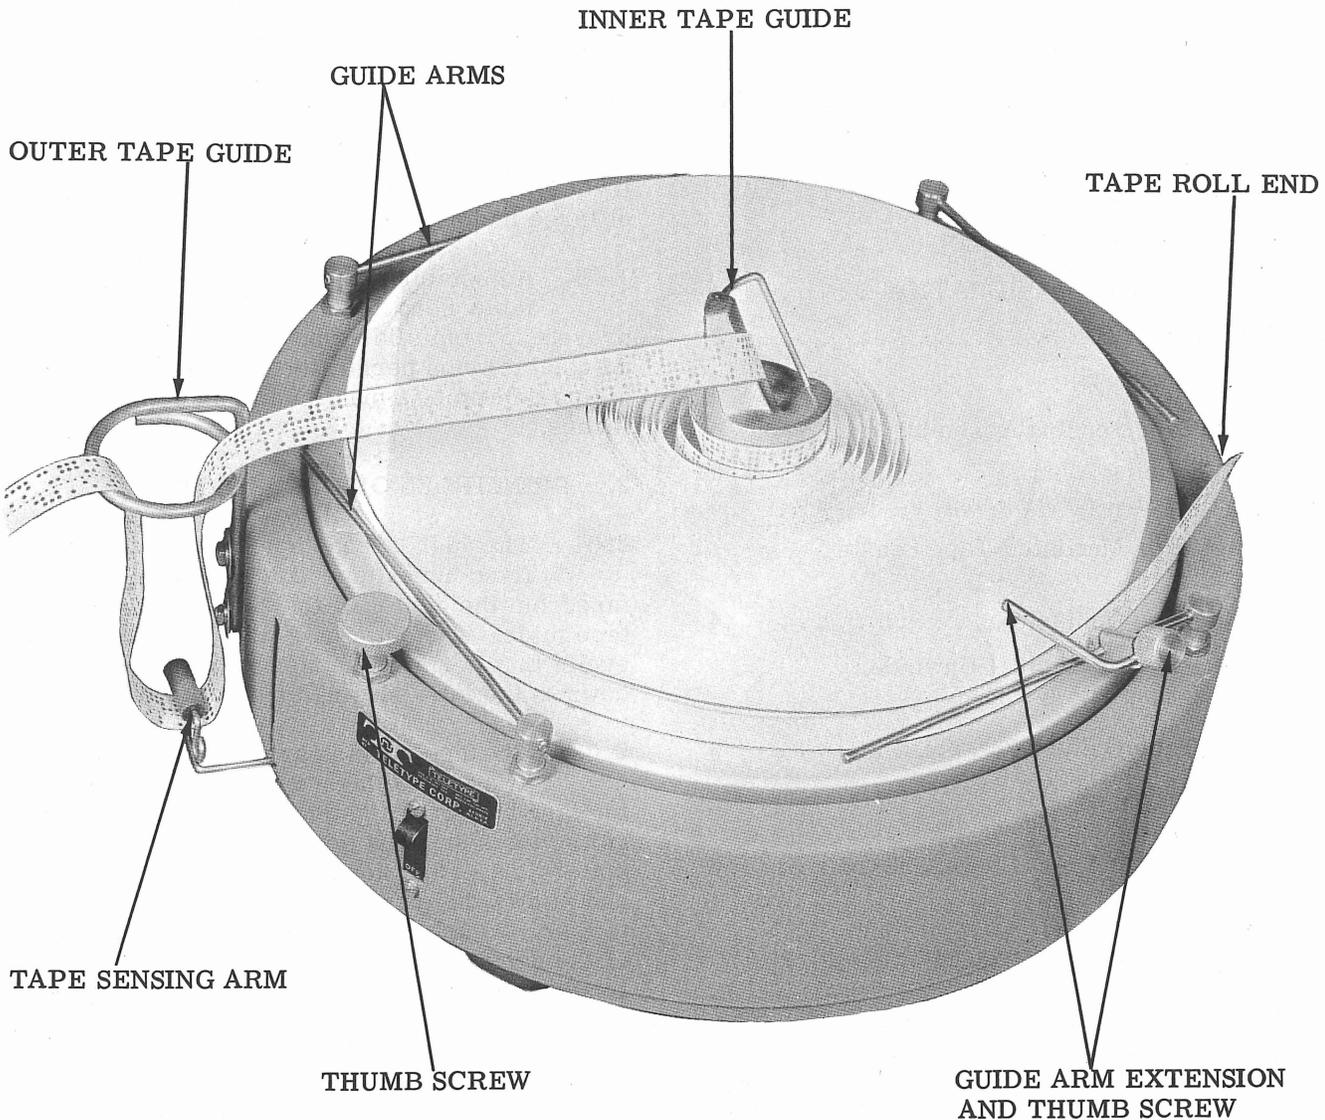

Figure 1 - High Speed Tape Feeder
1.02 The high speed tape feeder consists of a base, turntable, adjustable tape guide arms, inner tape guide, outer tape guide, and tape sensing arm (see Figure 1). It is approximately 15 inches in diameter, 6-1/2 inches in height, and weighs approximately 12 pounds.
3.07 Mount the tape guide arm extension on the guide arm shown in Figure 1 for most effective operation. It can be adjusted for five-to eight-level tape. Loosen the thumb screw and position the extension arm parallel to and, with some to 1/16 inch clearance, above the highest surface of the tape roll.
Unit under power, tape roll in place and threaded as shown. (See Figure 1.)